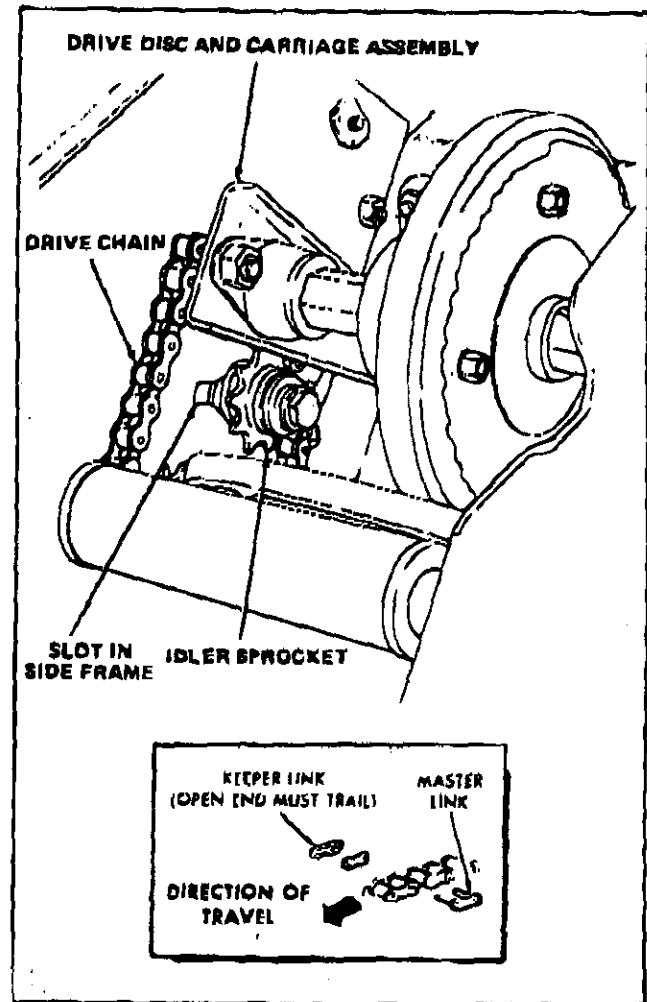

Figure 18
The drive chain (figure 18) must be checked periodically to insure correct chain tension. Proper tension exists when the chain is tight enough to prevent any noticeable sag. To adjust, proceed as follows:
3. Loosen idler sprocket (figure 18) and move in slot in side frame until desired tension is achieved. Tighten sprocket securely.
IMPORTANT: During installation of the replacement chain assembly, be certain to install the chain with the open end of the master link keeper trailing as shown in inset, figure 18.
3. Stand unit up on auger end and remove bottom cover (figure 18).